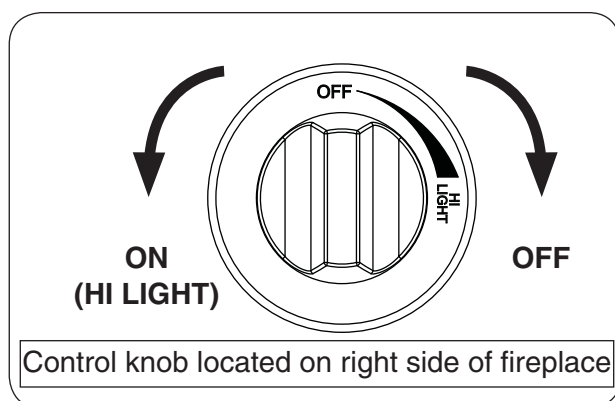

Fig. 19-2
4. **Once the match is burning and in position**, depress the gas control knob and turn it counter-clockwise to the **HI LIGHT** position (see Fig. 19-2). Your burner should light.
To extinguish your gas burner, depress the gas control knob and turn it clockwise to the **OFF** position (see Fig. 19-2). Be sure the control knob is turned fully off to avoid any gas leakage.